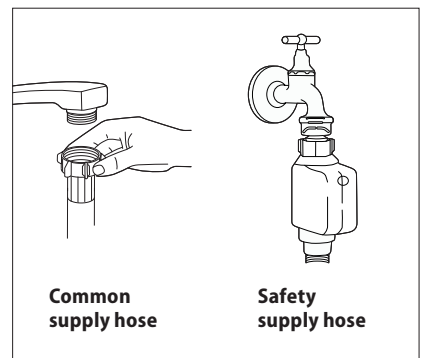

Fig. 19
- Connect the inlet hose to the tap with 3/4" thread (Fig. 19). Make sure that the inlet hose is not bent, crushed or entangled.